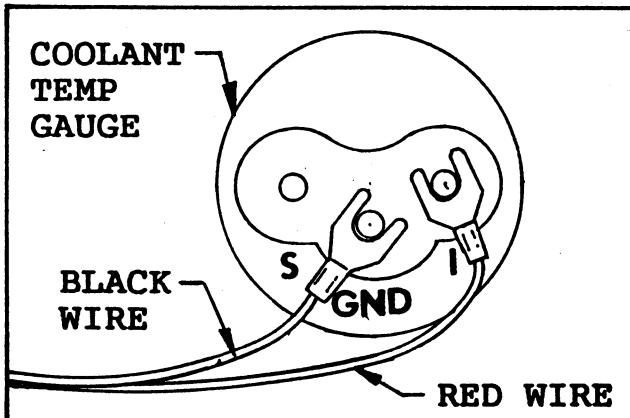

FIG. 2
- Connect the power cable's RED wire to the "I" terminal on the coolant temperature gauge. See FIG. 2.